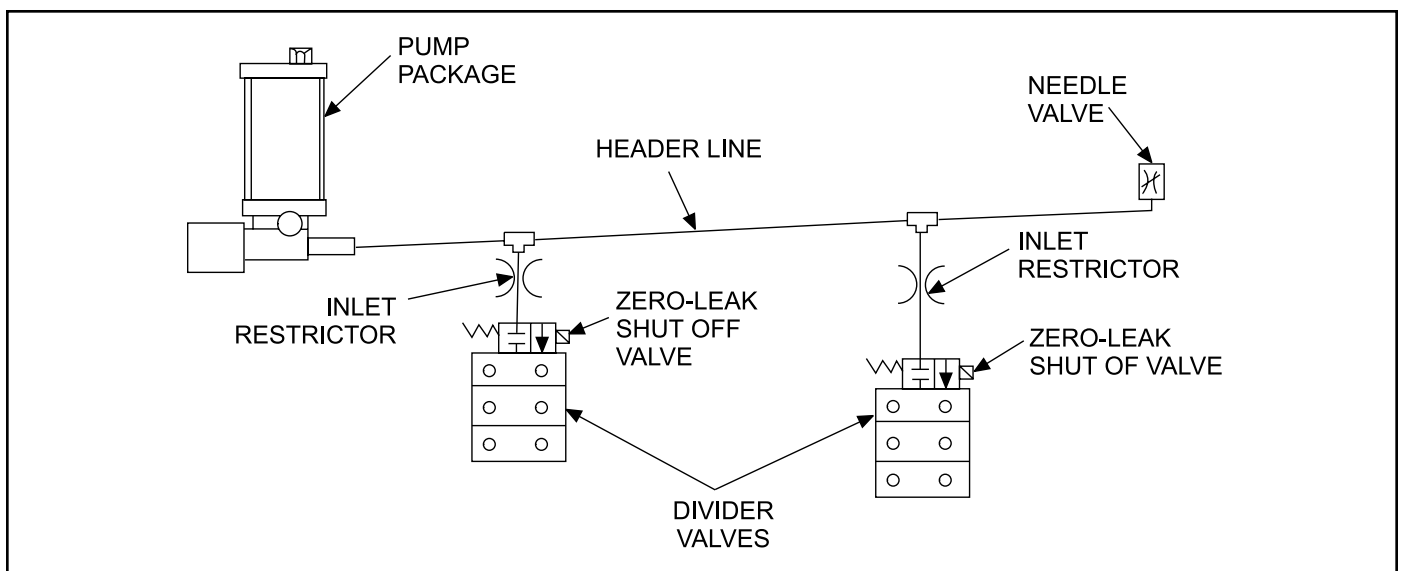

Figure 2-5. Pump and Header Installation
2.2.6.2 For systems which use a pump-fed header, the header line should be angled slightly upward from the pump to assist in bleeding operations (see Figure 2-5). It is recommended that a needle valve be located at the highest point of the header line to allow for easier air bleeding.